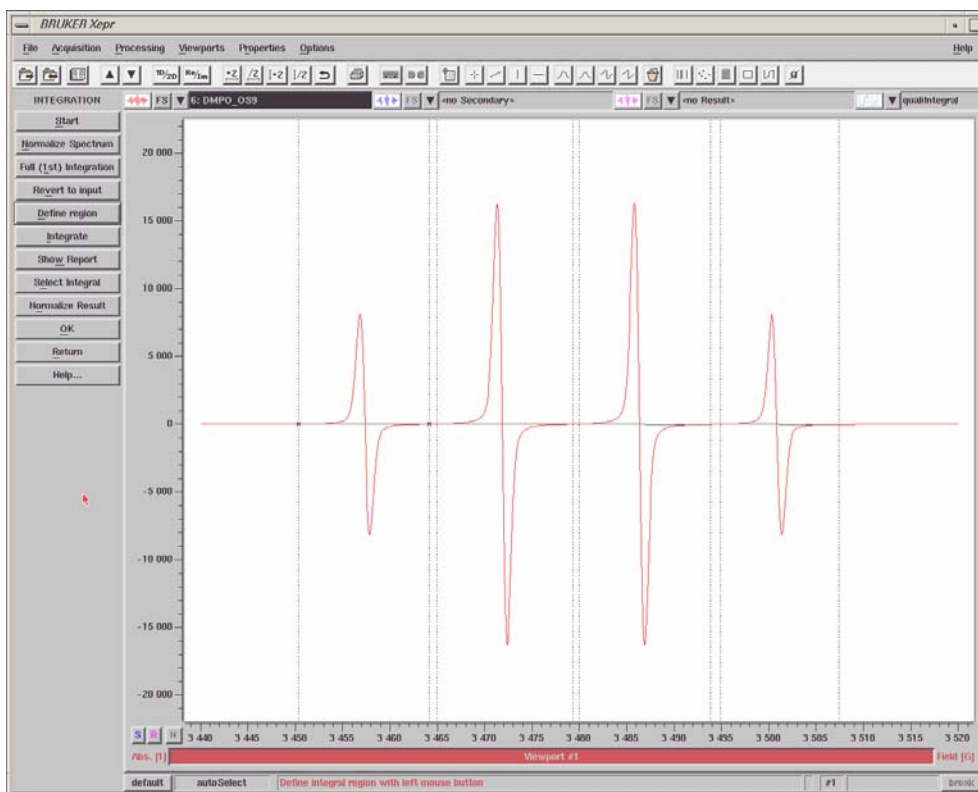

Figure 6-41 Selecting regions with individual qualifiers.
7. **Select individual peaks for integration.** You can integrate each EPR peak separately with Xepr. Click **Define Region** and move the qualifier to cover the EPR peak you want to integrate. Click **Define Region** again to get another qualifier to cover another peak. Repeat this procedure until all the peaks you want to integrate have been covered by individual qualifiers. Adjust each qualifier to fit the slope and offset of the baseline. (See Figure 6-41.)